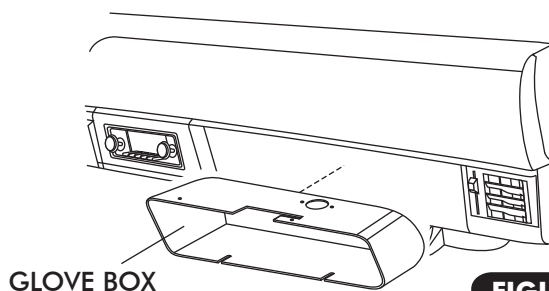

FIGURE 21
- ☐ GLOVE BOX INSTALLATION (SEE FIGURE 21, BELOW).
- ☐ INSTALL GLOVE BOX PROVIDED, AND SECURE WITH OEM SCREWS THROUGH OEM HOLES (SEE FIGURE 21).